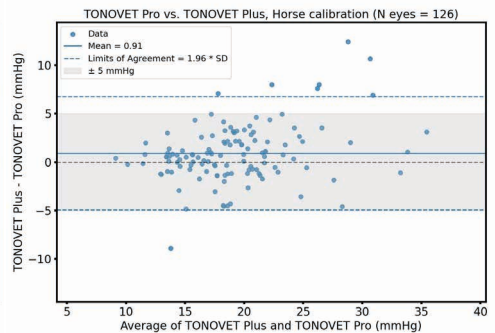

Figure 4. Horse calibration
- Figure 4 = Bland-Altman plot TONOVET Pro vs. TONOVET Plus horse calibration